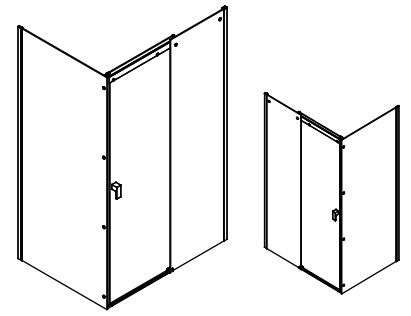

Fig.2
1. (Fig.2) Reversible fitting.